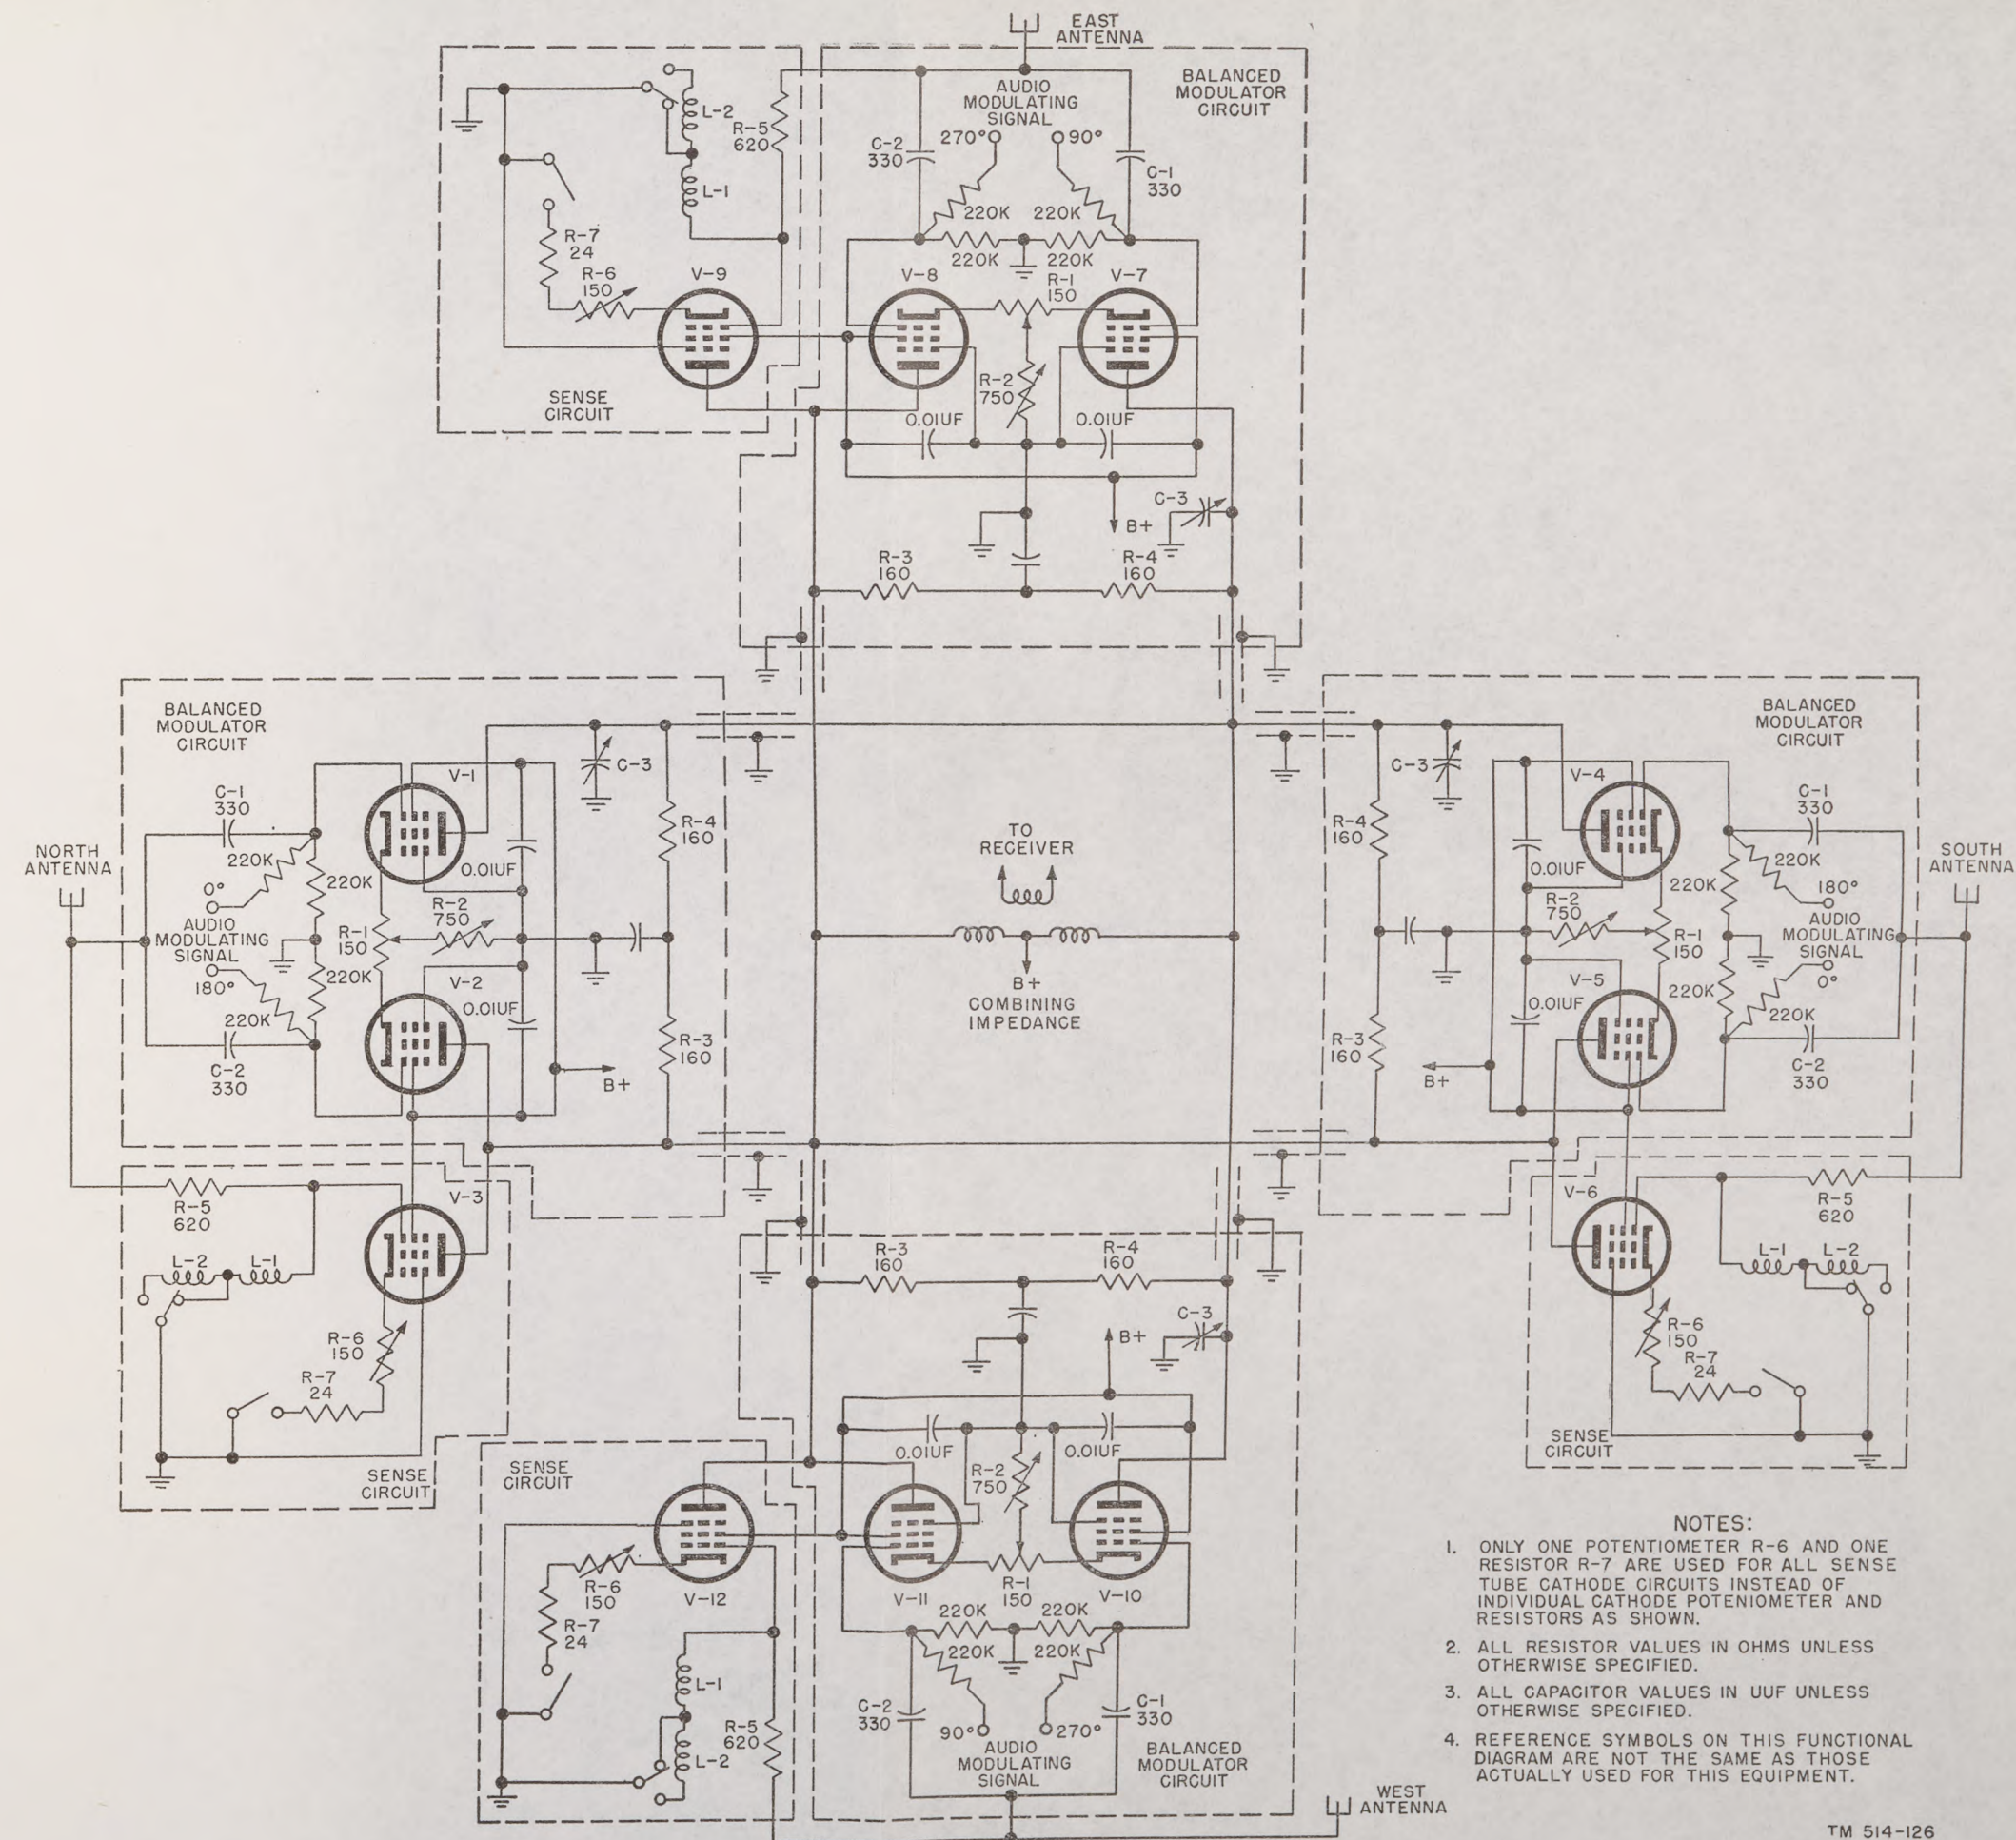

Figure 66. Antenna system, functional schematic diagram.
e. Figure 66, a functional schematic diagram of the antenna system, shows some control circuit parts for the antenna system which are located physically in the modulating voltage generator. *For purposes of clarifying the following explanation of its operation, the parts designations on this drawing do not agree with the designations of corresponding parts on the equipment, nor are the circuits identical. For details of this equipment, see figures 39, 119, 122, 123, and 124.*
81. Functioning of Parts (fig. 66)